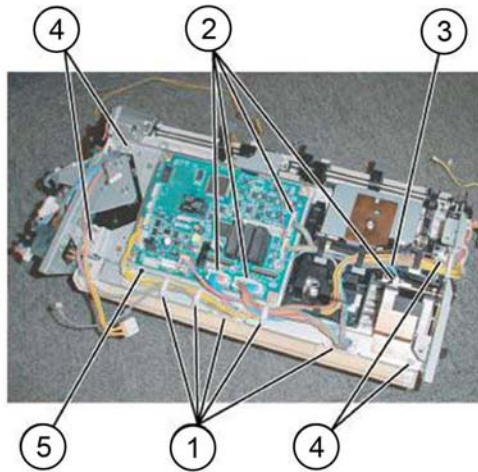

Figure 2 Bottom plate removal
7. Remove the bottom plate, Figure 2:
- a. Release the harness from the 5 clamps (1).
- b. Disconnect eight connectors (2).
- c. Remove the harness from the retainers (3).
- d. Remove four screws (4).
- e. Remove the bottom plate (5).